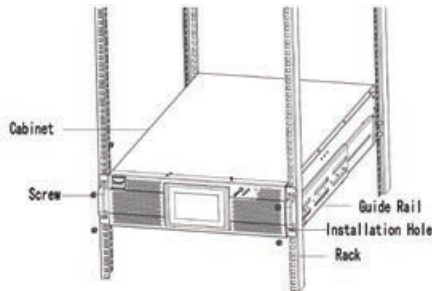

Fig.3-3 Rack Mounted Installation
2. Put the UPS and battery cabinet on the guide rail, fix the units to the service rack, shown as Fig.3-3.